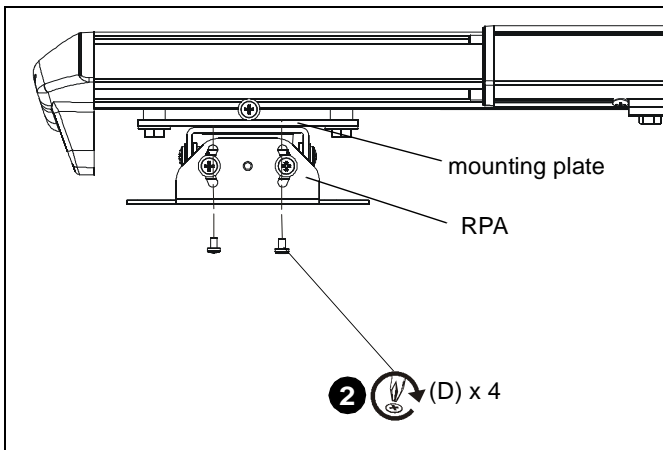

Figure 16
2. Install four 1/4-20 x 3/8" Phillips pan machine screws (D) through RPA holes and into projector mounting plate. (See Figure 16)